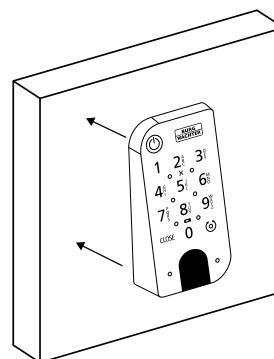

Fig. 8
- ③ Mount the keypad on the wall in the desired position (Fig. 8).